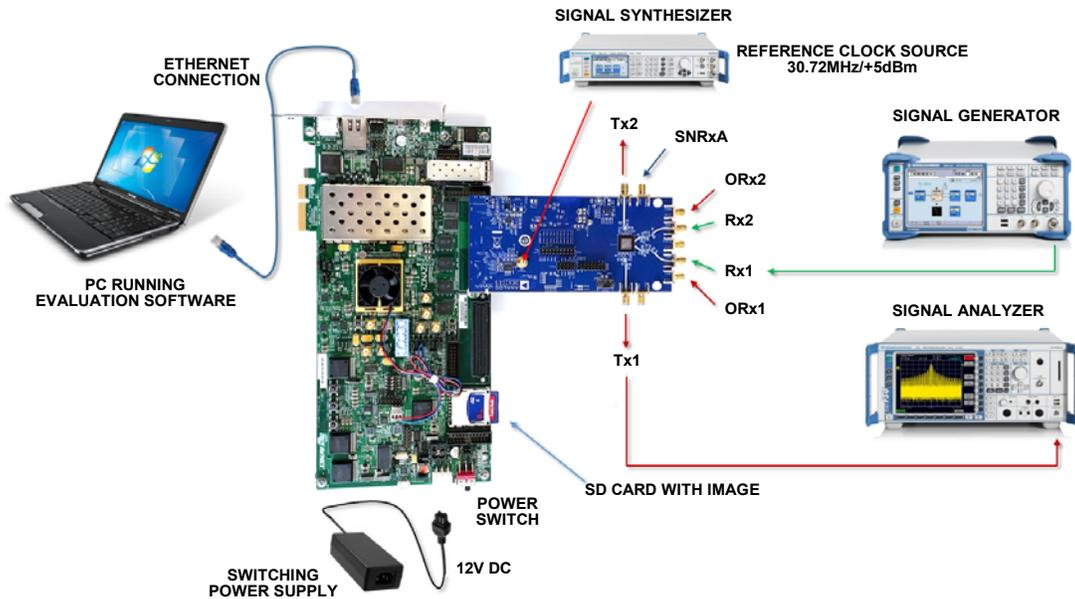

Figure 175. Evaluation Board and Xilinx EK-Z7-ZC706 ZYNQ Motherboard with Connections Required for Channel 1 Transmit and Receive Testing
1. Connect the evaluation board and the ZYNQ evaluation platform together, as shown in Figure 175. Use the HPC FMC connector (J37). Ensure proper alignment of the connectors.